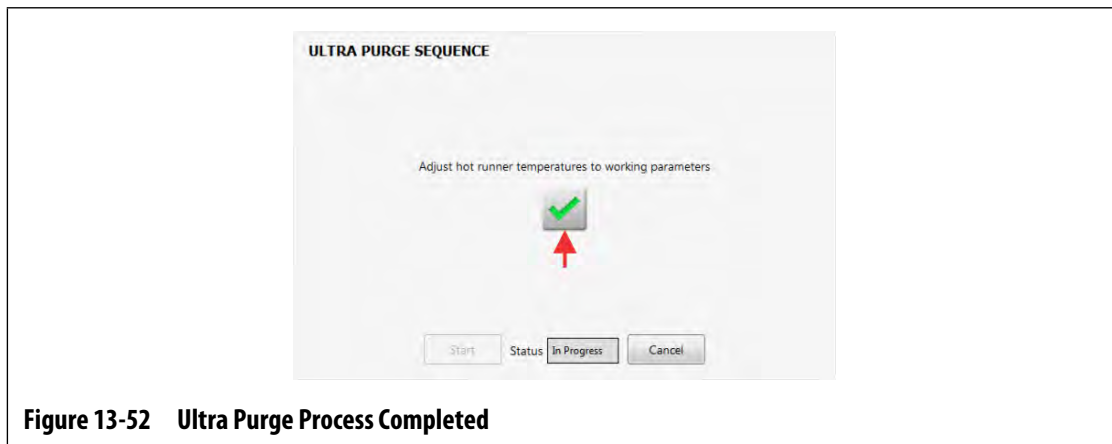

Figure 13-52 Ultra Purge Process Completed
22. When the temperatures are at their parameter settings, touch the green check mark button to continue (refer to Figure 13-52).